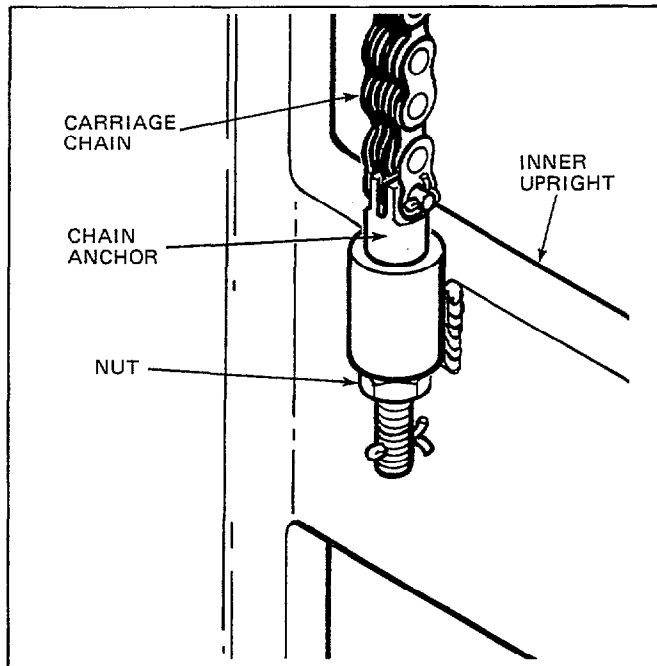

Figure 26. Carriage Chain Adjusting Nut
1. Locate the carriage chain anchors on the inner upright. See Figure 26.